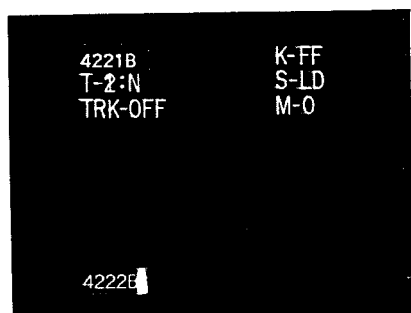
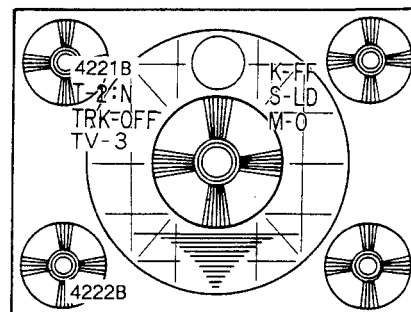

Fig. 8-3 Blue Background Display
Fig. 8-4 Play Back Display
- In the test mode, the TV screen shows the test mode information against a blue background (refer to Fig. 8-3). However, during play and search with a LD or CDV (CD with Video), the blue background is replaced by the playback picture and the service mode information (the same information as that shown against the blue background) is shown against the playback picture (refer to Fig. 8-4).